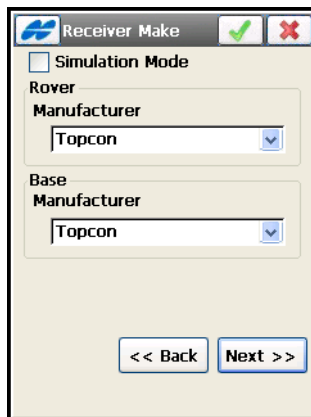

Figure 4-6. Receiver Make
3. On the **Receiver Make** screen (Figure 4-6 on page 4-5) you can:
After naming the configuration, selecting its type and instrument manufacturer, tap **Next** on the **Receiver Make** screen (Figure 4-6 on page 4-5) and continue below to finish the configuration for an RTK.